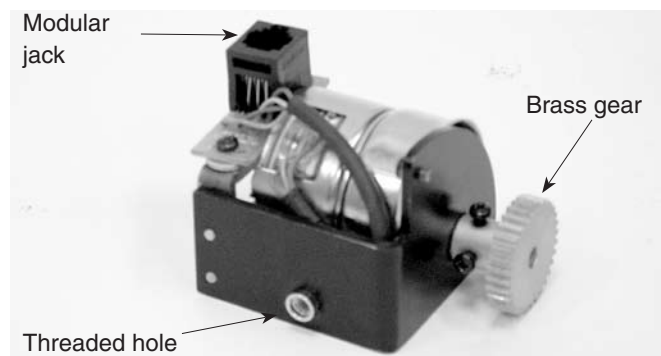

Figure 2. The R.A. motor assembly.
2. The R.A. motor assembly (Figure 2) is attached to the mount by a socket-head cap screw that goes through the hole in the rear of the equatorial mount, just above the rear latitude adjustment L-bolt (Figure 3). Attach the 4mm screw to the end of a 4mm hex key and push it up through the hole in the rear of the equatorial mount. Hold the R.A. drive in your hand so that its threaded hole meets up with the screw as it comes out the other end of the hole. Thread the screw into the threaded hole of the R.A. motor assembly until secure, but do not overtighten. This attachment process is tricky, and it may take you several tries before you get it right.